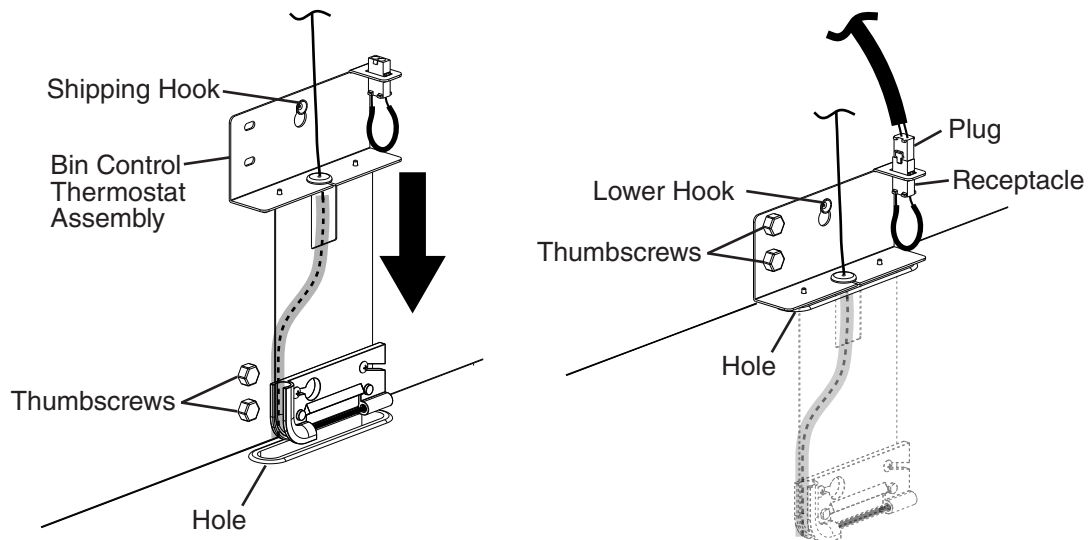

Fig. 3
- 1) Install the bin control thermostat assembly as follows. See Fig. 3.